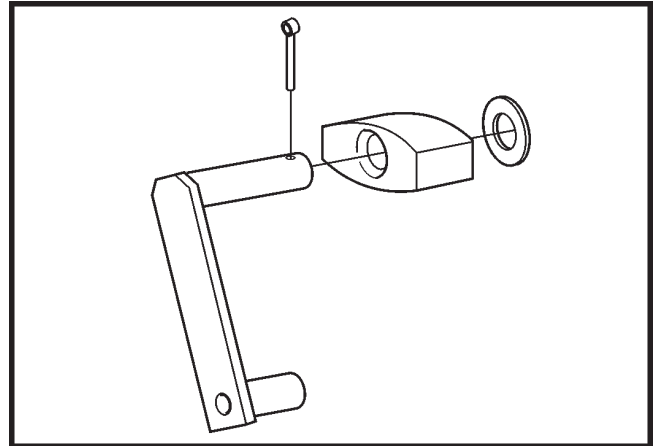

Figure 7-7. Chain tensioner components.
3. Remove the cotter pin, washer and slider block from the tensioner arm. Figure 7-7.